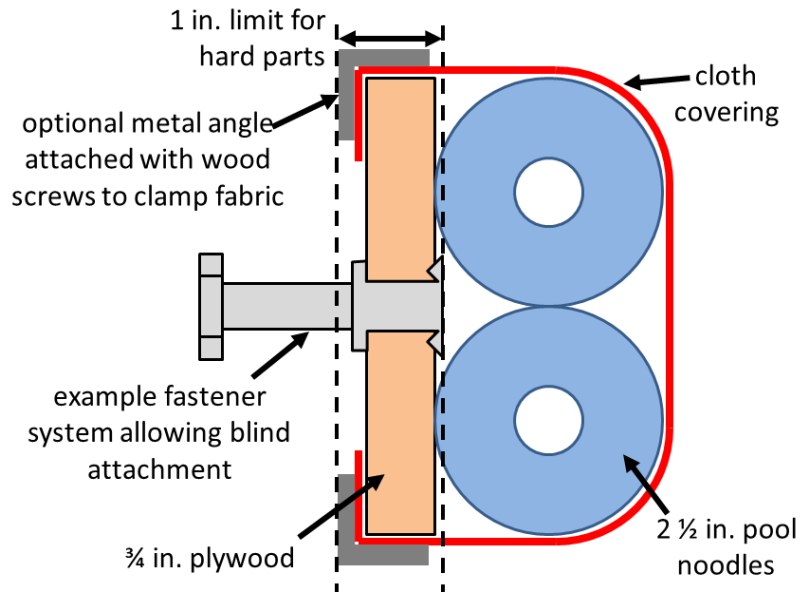
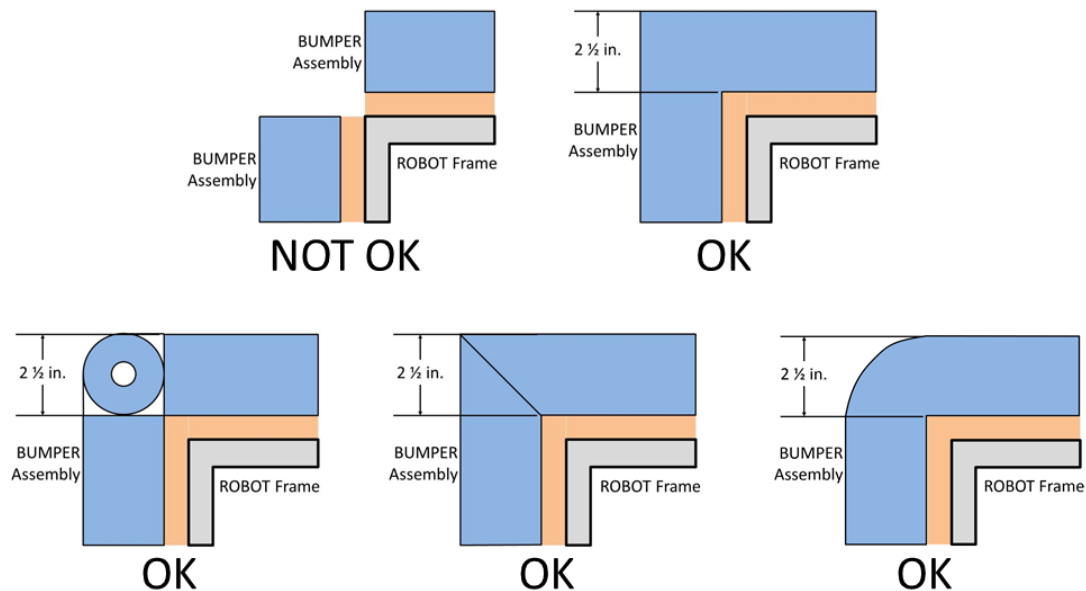

Figure 9-7 BUMPER vertical cross section
Figure 9-8 Soft parts of BUMPER corners
- R24.** BUMPERS must be constructed as follows (see Figure 9-7):
- C. use a stacked pair of approximately 2½ in. (nominal, ~63mm) round, petal, or hex “pool noodles” (solid or hollow) as the BUMPER cushion material (see Figure 9-7). All pool noodles used in a BUMPER set (e.g. Red set of BUMPERS) may not be modified (with the exception of cutting to length or cutting to facilitate mating pool noodles at the corners as required by R25) or deformed and must be the same diameter, cross-section, and density (e.g. all round hollow or all hex solid). Cushion material may extend up to 2½ in. (~63 mm) beyond the end of the plywood (see Figure 9-8). To assist in applying the fabric covering, soft fasteners may be used to attach the pool noodles to the wood backing, so long as the cross section in Figure 9-7 is not significantly altered (e.g. tape compressing the pool noodles).
- D. be covered with a rugged, smooth cloth. (multiple layers of cloth and seams are permitted if needed to accommodate R21 and/or R22, provided the cross section in Figure 9-7 is not significantly altered).
- E. optionally use metal angle, as shown in Figure 9-7 or other fasteners (e.g. staples, screws, adhesives, etc.) to clamp cloth.
- R25.** Corner joints between BUMPERS must be filled with pool noodle material. Examples of implementation are shown in Figure 9-8.